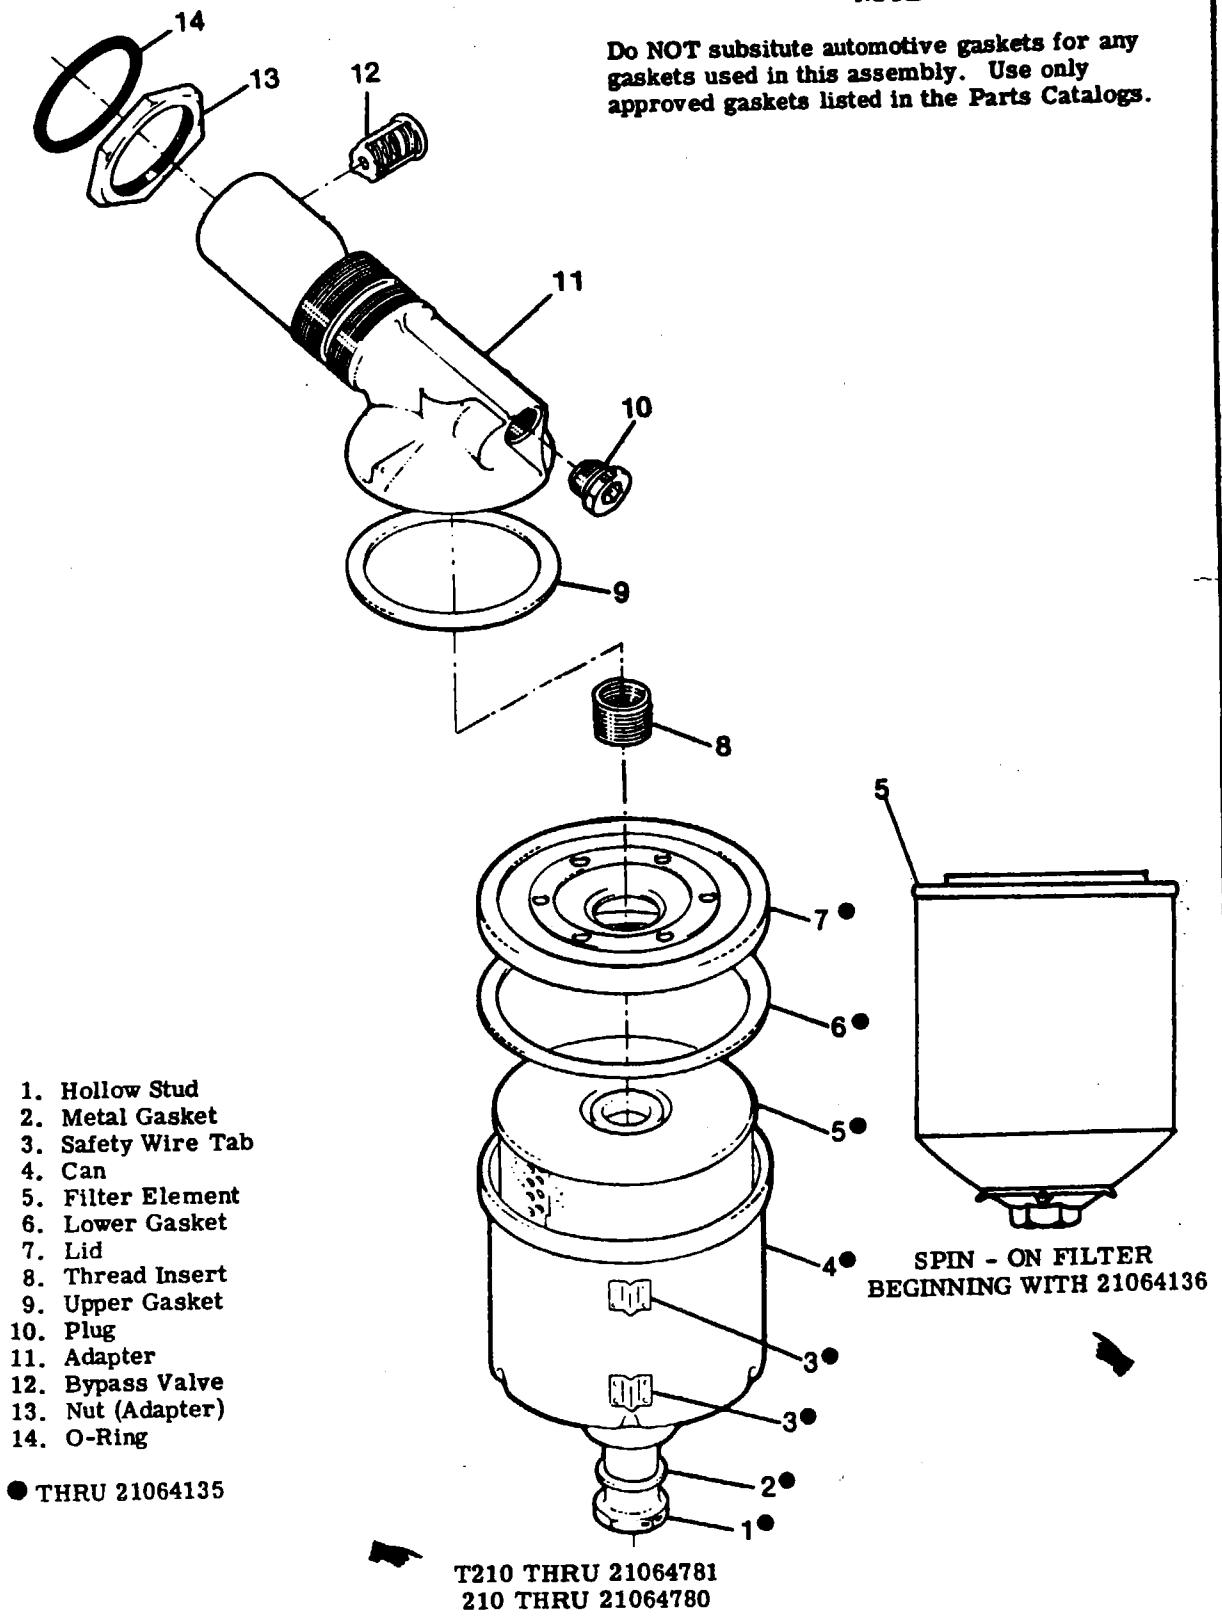
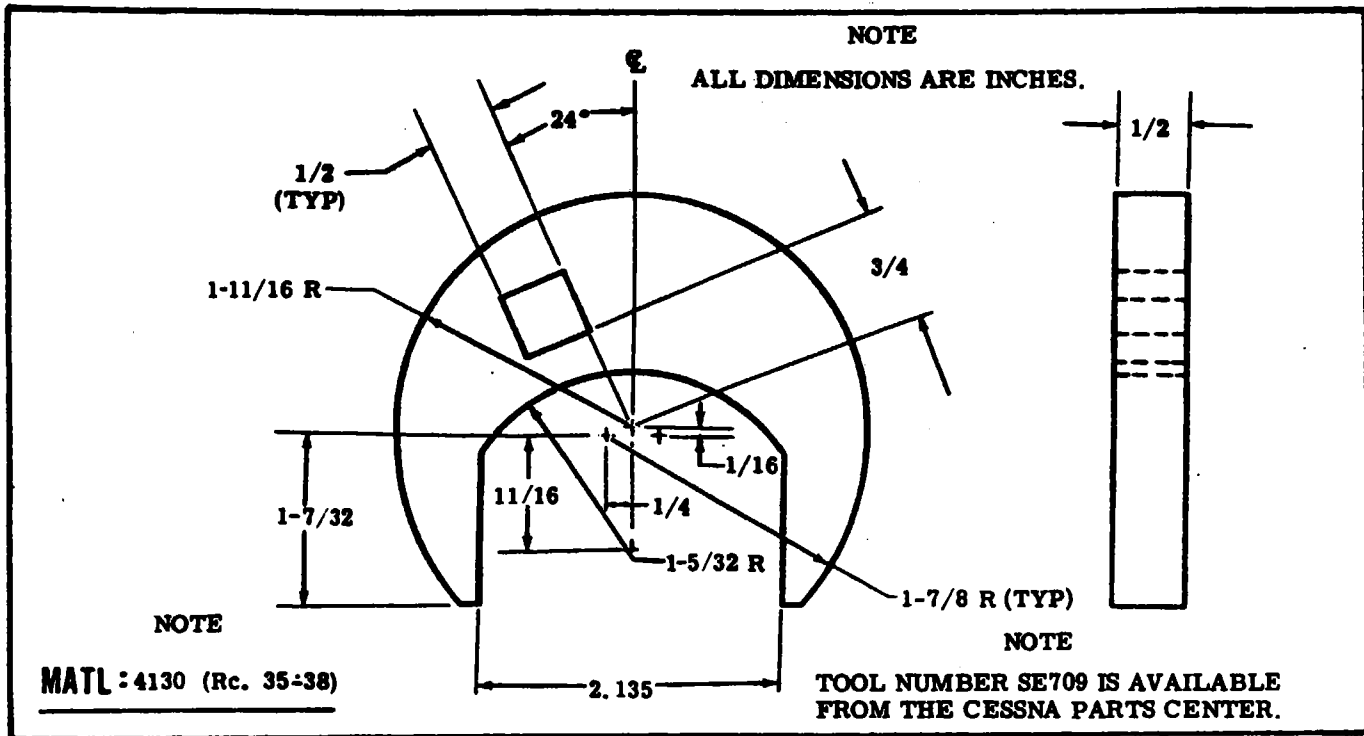

Figure 12-4. Full-Flow Oil Filter
Figure 12-5. Oil Filter Adapter Wrench Fabrication
12-33. REMOVAL AND INSTALLATION (FILTER ELEMENT) (See figure 12-4).
- h. Place a new filter element (5) in can (4) and insert the hollow stud (1) with a new metal gasket (2) in place, through the filter can and element.
- i. Position a new gasket (6) inside flange of lid (7) and place lid in position on filter can.
- j. With a new gasket (9) on face of lid, install filter can assembly on adapter (11). While holding filter can to prevent turning, tighten hollow stud (1) and torque to 20-25 lb-ft (240-300 lb-in), using a torque wrench.
- o. While engine is still warm, recheck torque on hollow stud (1) then safety stud to lower tab (3) on filter can and safety adapter (11) to upper tab on filter can.
- 12-33B. DESCRIPTION.** A disposable, spin-on oil filter attaches to a threaded fitting on either an add-on type adapter (See figure 12-4) or an integral adapter on the oil pump casting. The filter contains an internal bypass valve.
12-35. REMOVAL. (Refer to figure 12-4.)
A special wrench adapter for adapter nut (13) (Part No. SE-709) is available from Cessna Parts Distribution (CPD 2) through Cessna Service Stations, or one may be fabricated as shown in figure 12-5. Remove any engine accessory that interferes with removal of the adapter.
- b. Note angular position of adapter (11), then remove safety wire and loosen adapter nut (13).
- c. Unscrew adapter and remove from engine. Discard adapter O-ring (14).
12-36. DISASSEMBLY, INSPECTION AND REASSEMBLY. Figure 12-4 shows the relative position of the internal parts of the filter adapter and may be used as a guide during installation of parts. The bypass valve is to be installed as a complete unit, with the valve being staked three places. The heli-coil type insert (8) in the adapter may be replaced, although special tools are required. Follow instructions of the tool manufacturer for their use. Inspect threads on adapter and engine for damage. Clean adapter in solvent and dry with compressed air. Make sure all passages in the adapter are open and free of dirt. Check that bypass valve is seating properly.
a. Assemble adapter nut (14) and new O-ring (15) on adapter (11) in sequence illustrated in figure 12-4.
c. Apply anti-seize compound sparingly to the adapter threads, then simultaneously screw adapter and adapter nut into engine until O-ring seats against engine boss without turning adapter nut (14). Rotate adapter to approximate angular position noted during removal. Do not tighten adapter nut at this time.